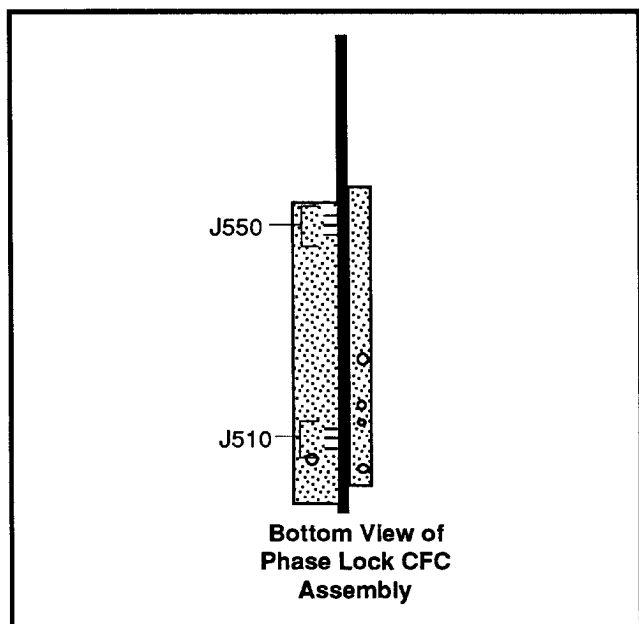

Figure 5-7. Locations of J510 and J550 on the Phase Lock assembly.
5. Disconnect P510 and P550 (Figure 5-7) from the Phase Lock assembly.